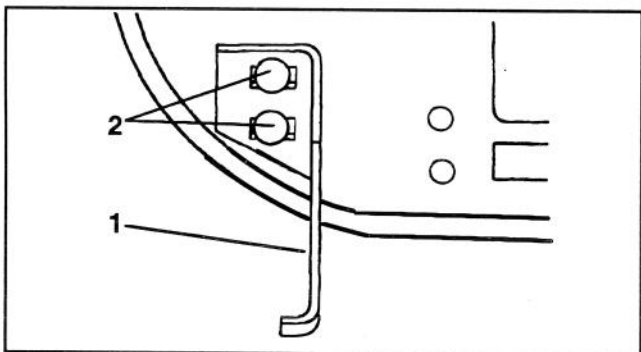

Figure 5
9. Using carriage bolts and lock nuts removed, mount new quadrant to mower deck as shown in Figure 5.